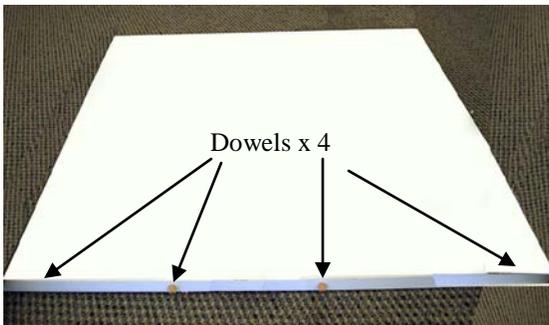

Figure 1
2. Place the table ends, melamine tabletop side down with pre-drilled side up, on a smooth surface to avoid scratching. Place the dowels in one table top end piece to help align the other table top end piece (**Figure 1**). (The dowels will be glued in place as a last step.)